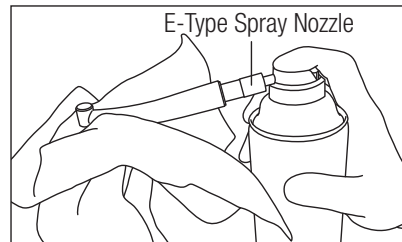

Fig. 12
- 3) Hold the handpiece, and spray for 2 or 3 seconds until oil comes out of the handpiece tip (Fig. 12).